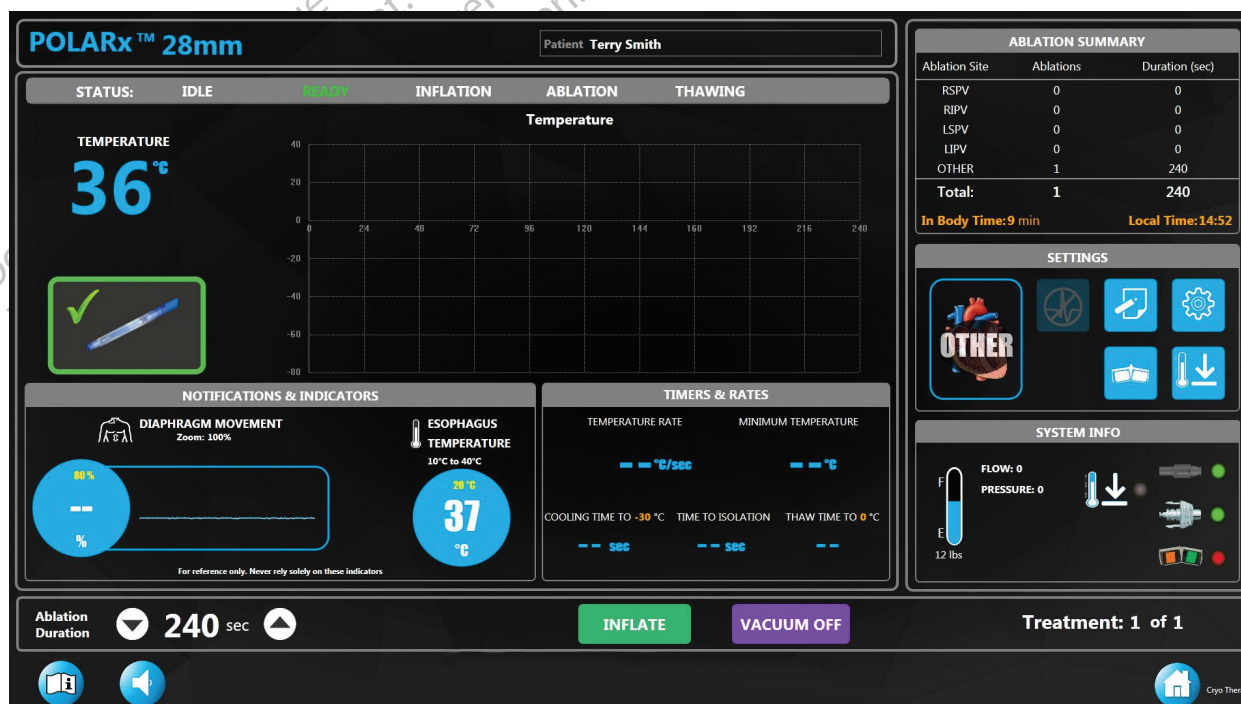
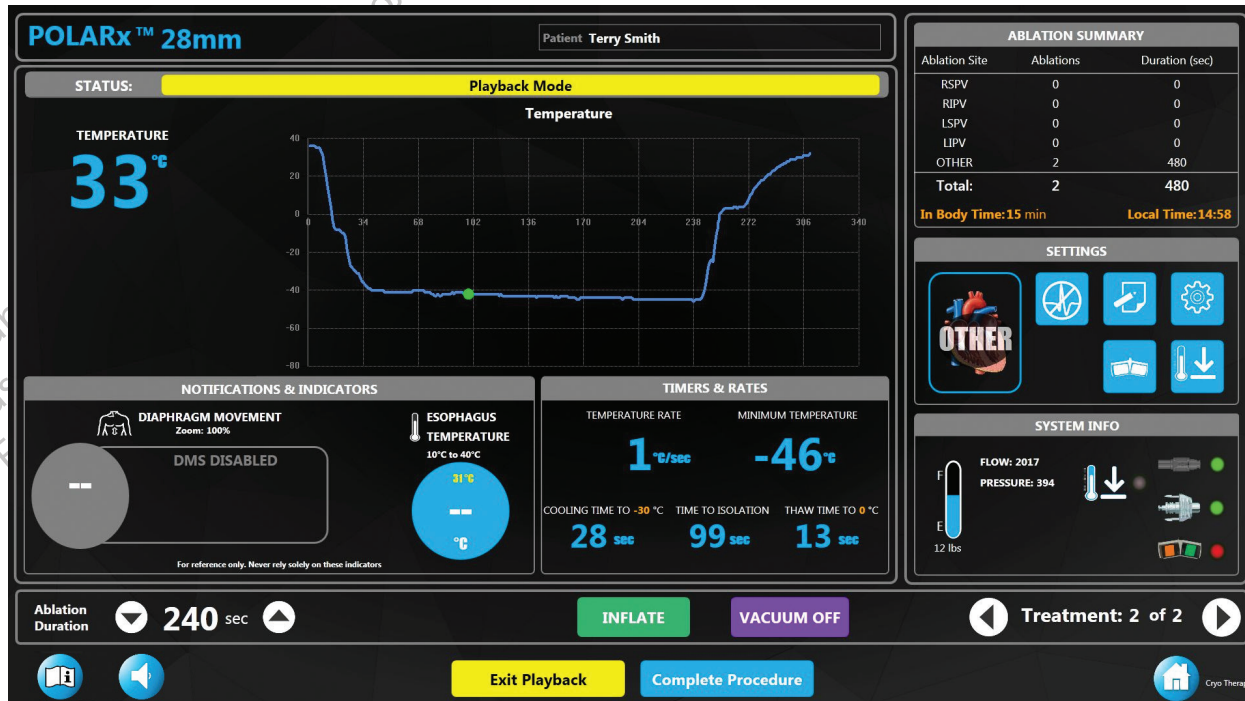

Figure 15. READY state
Figure 16. Playback mode
- The PLAYBACK button appears allowing data from the previous ablations to be reviewed. Press the PLAYBACK button to enter the Playback Mode, shown in Figure 16.
- Use the Treatment arrows (Figure 16 16) to display data from previous treatments within the current procedure.
1. When treatment is completed, press the Complete Procedure button on the Therapy screen (Figure 15) or the Playback screen (Figure 16).